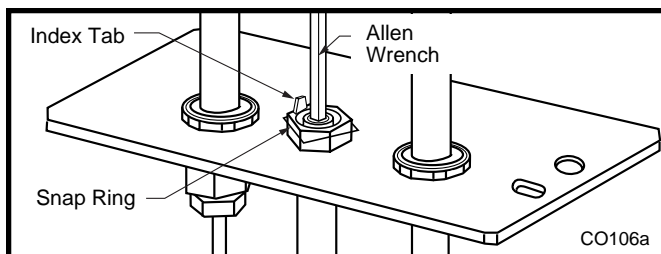

Fig. 63 Remove pilot orifice.
8. Remove pilot orifice with allen wrench. (Fig. 63)